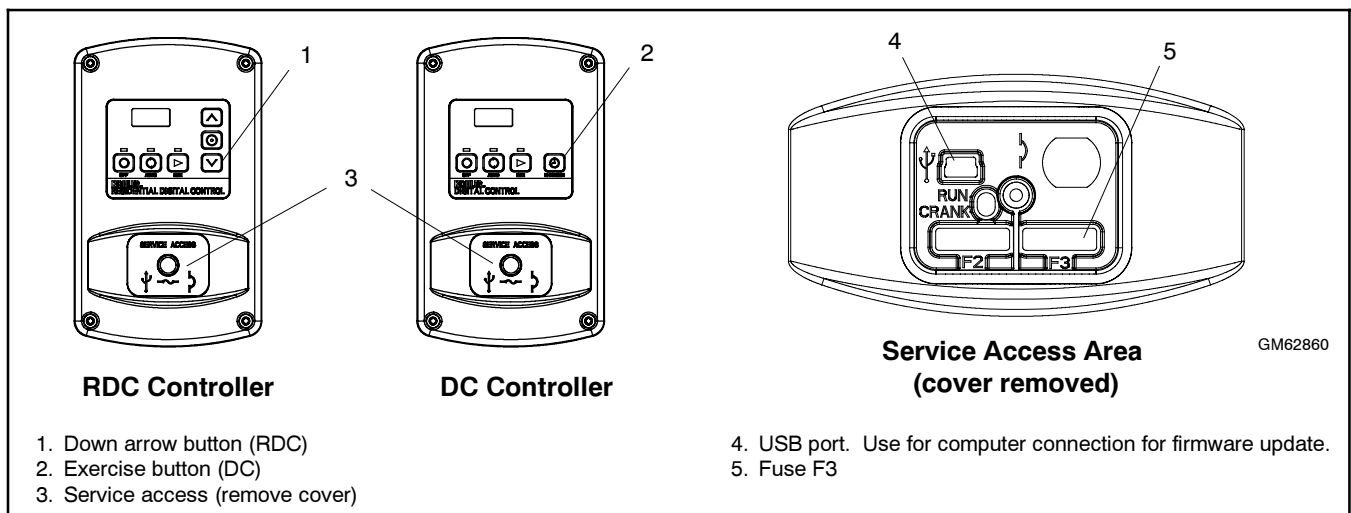

Figure 3 RDC and DC Controllers
2. Update the controller firmware. Use a USB cable to connect the controller directly to a computer and use OnCue software to update the controller firmware. See Figure 3. See Controller Firmware Update in this document and TP-6796, OnCue Software Operation Manual, provided with this kit, for instructions.
- b. Press the down arrow button (RDC) or exercise button (DC) 5 times. See Figure 3.
Connect the controller to the PC or laptop computer using a USB cable connected to the USB port on the controller. See Figure 3. See TP-6796, OnCue Software Operation Manual (provided), for instructions to load the new firmware.